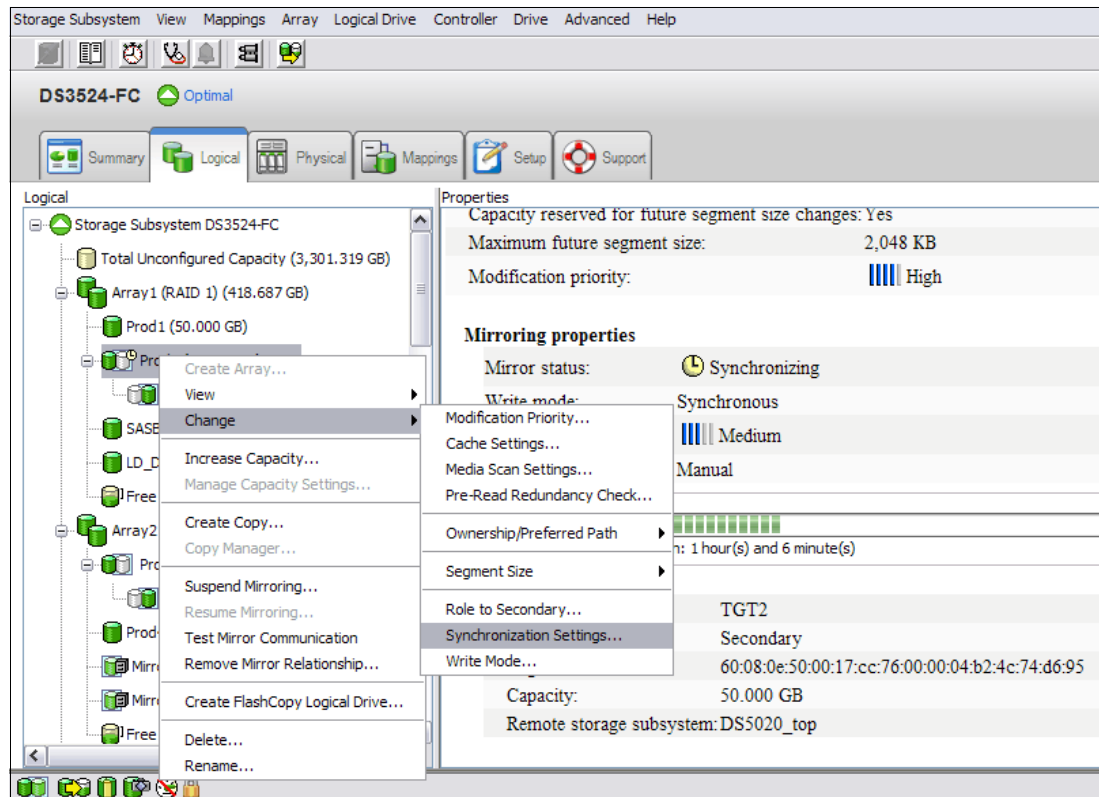

Figure 5-35 Selecting synchronization settings to change
1. Select a primary logical drive in the Subsystem Management window logical view. Then, select **Logical Drive** → **Change** → **Synchronization Settings** from the pop-up menu.) as shown in Figure 5-35 on page 188.